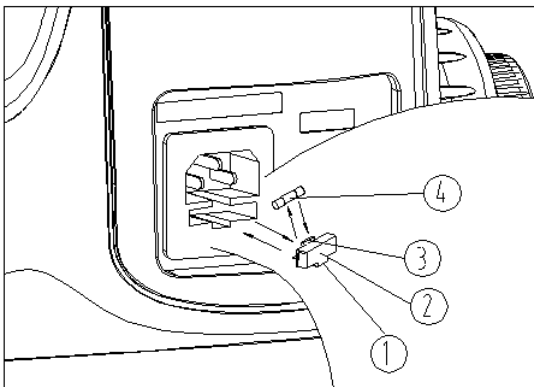

Fig. 18
Replacing the Fuse – (Fig. 18)
Pull out the power cord. Unscrew the fuse group (1) from the fuse base (2) with a “–” type screwdriver. Install a new fuse and screw the fuse group back into the fuse base (see Fig. 18).